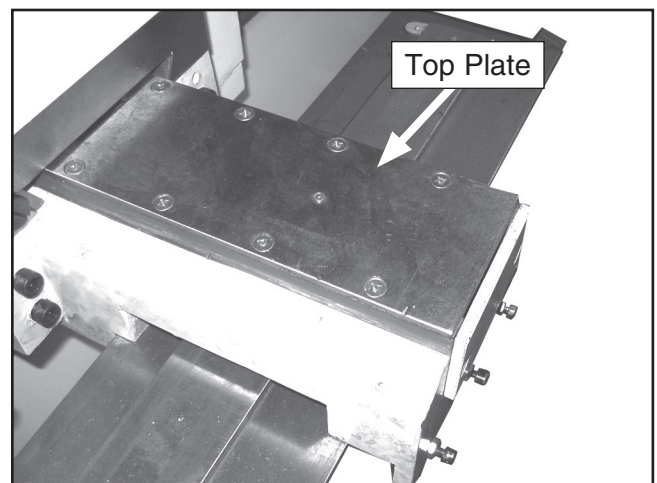

Figure 15. Top plate installation.
- Reinstall the top plate as shown in **Figure 15**.